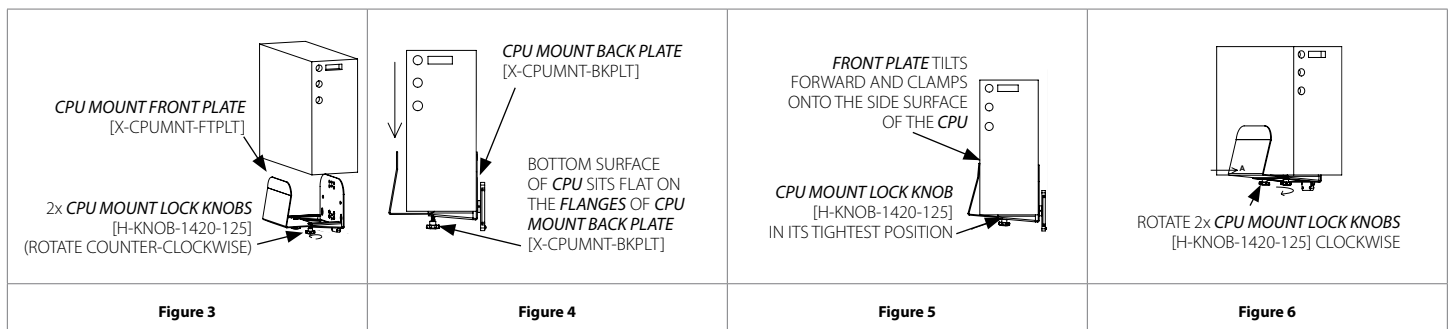

Figure 3
1. Rotate the 2x *CPU MOUNT LOCK KNOBS* counter-clockwise until the *CPU MOUNT FRONT PLATE* is loose enough to slide out. DO NOT unscrew all the way. (Figure 3)